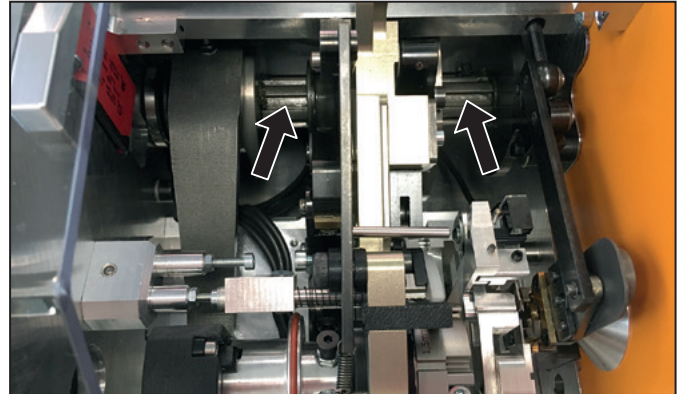

Figure 7.6 Drive shaft lubrication points
- ▶ Lubricate the drive shaft at the points shown, see Figure 7.6.